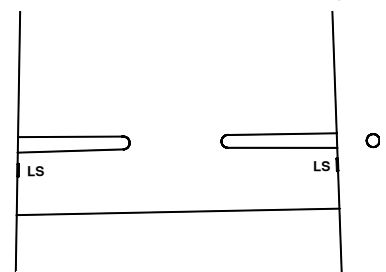

Fig. 5
2. For standard U.S. 8 1/2" X 11" and 8 1/2" X 14" legal paper, move both paper guides in so that their inside edges align with the straight marks on the feed table denoted LS (see Fig. 5 for mark location). For A4 paper, align the *outside edges* of the paper guides with the straight marks denoted A4. Tighten both thumbscrews (Note: Do not over tighten thumbscrews).